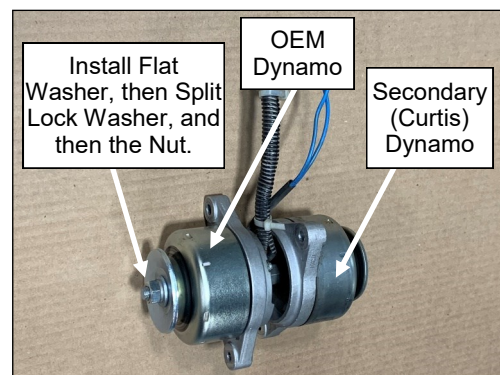

Fig. 2.2 (Install OEM Dynamo onto shaft)
- 2.2 See fig. 2.2. Using the Curtis dynamo with the factory installed Curtis shaft, install the OEM dynamo onto the shaft. Then install the convex rotor washer with the curved side against the bearing. Then install the rotor cap and then the washer. Install the M12 flat washer, then the split lock washer, then the nut (loosely).